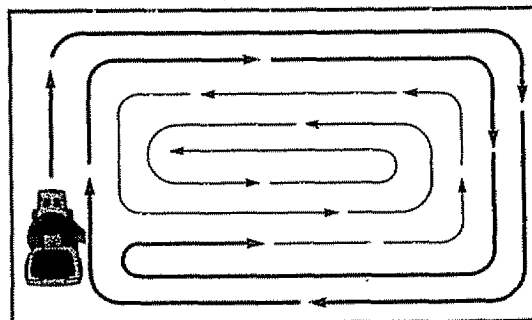

FIG. 10A
- When mowing large areas, start by turning to the right so that clippings will discharge away from shrubs, fences, driveways, etc. After one or two rounds, mow in the opposite direction making left hand turns until finished (See Fig. 10A).